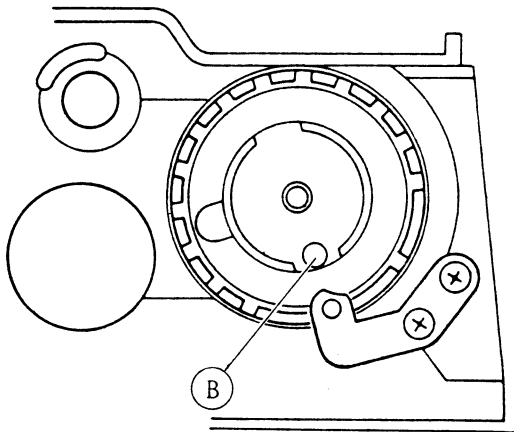

Fig. 5
The (B) position at "Auto" will be located as shown in Fig. 5.